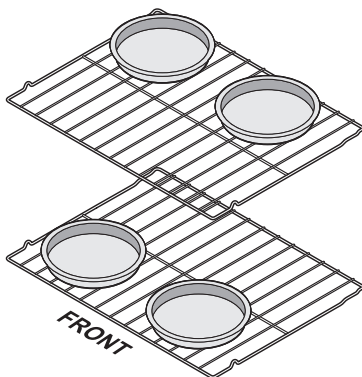

Figure 14: Pan positions two rack baking
- When baking using two oven racks, position cookware as shown in Figure 14.